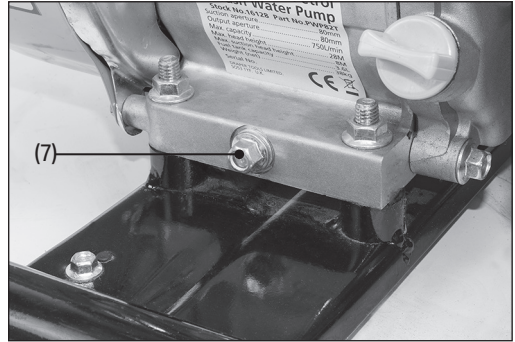

Fig. 20
1. Unscrew and remove the dipstick (6), then the sump bolt (7) and drain the oil into a suitable container. (Fig. 20).